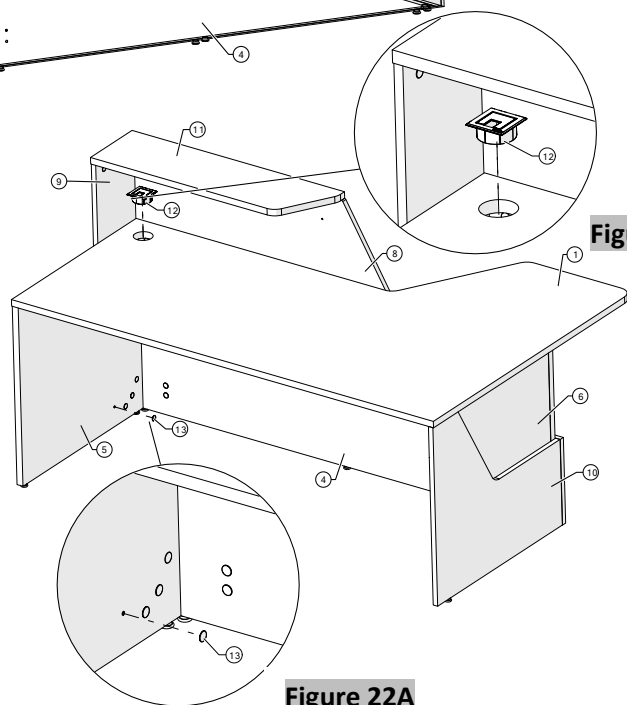

Figure 22
25. Insert the grommet into the grommet hole (Figure 22).